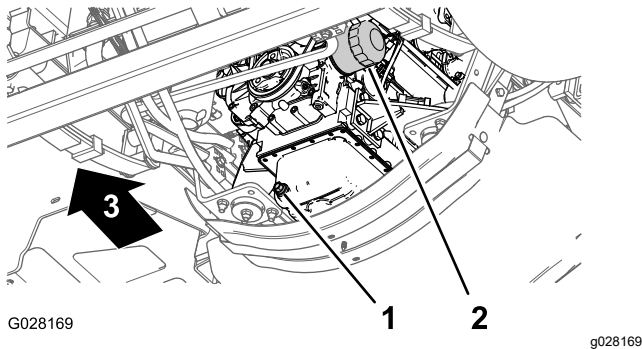

Figure 112
3. Align a drain pan under the engine oil filter (Figure 112).
4. Remove the old oil filter (Figure 112).
8. Install the oil filter to the filter adapter and turn the oil filter clockwise until the rubber gasket contacts the filter adapter, then tighten the filter an additional 1/2 turn (Figure 112).
1. Align a drain pan under the drain plug (Figure 112).
2. Remove the drain plug (Figure 112) and allow the oil to drain completely.